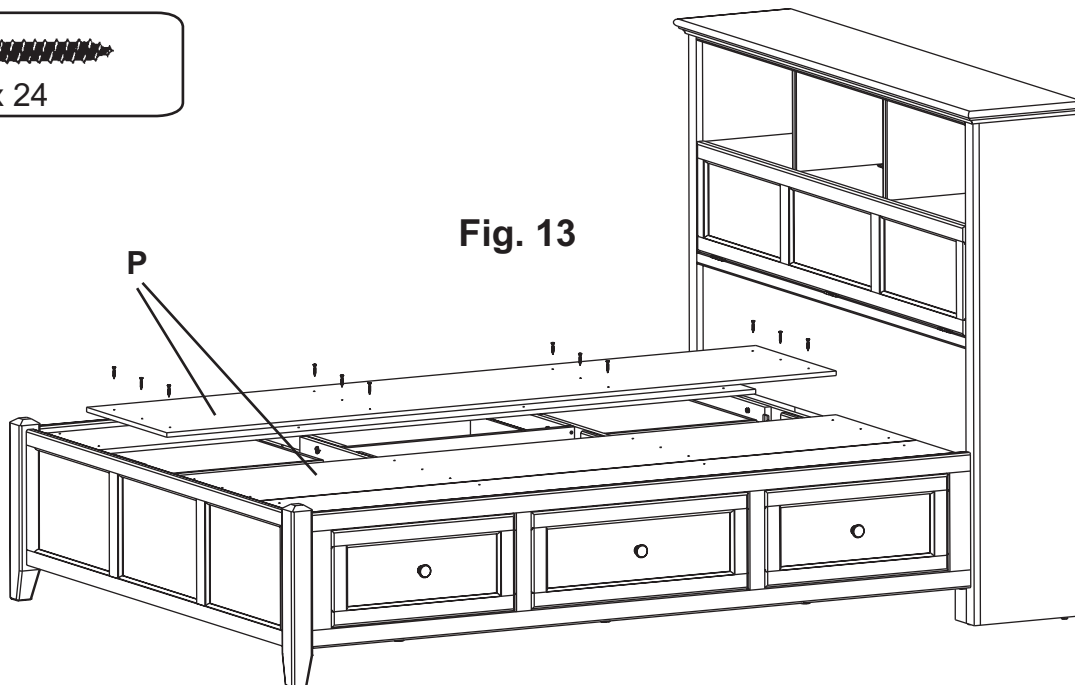

Fig. 13
13. Place the Deckboards (P) as shown in Figure 13. There should be a small gap between each deckboard. Secure with 24 #8x1-1/4" Screws (E).